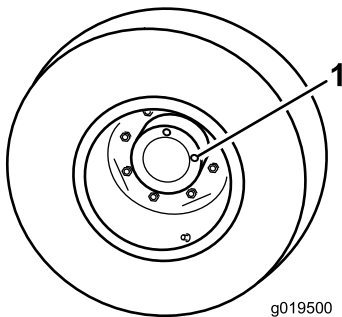

Figure 14
1. With machine on level surface, position the wheel so one check plug (Figure 14) is at the 12 o'clock position and the other is at 3 o'clock position.
1. Check/drain plug (2)
2. Remove the plug at the 3 o'clock position (Figure 14). Oil level should be at the bottom of the check plug hole.